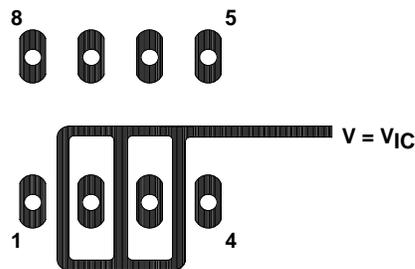

Figure 101. Isolation Metal Around Device inputs (JG and P packages)
1. Isolate the device from other potential leakage sources. Use a grounded shield around and between the device inputs (see Figure 101). Leakages that would otherwise flow to the inputs are shunted away.
Because of the extremely high input impedance and resulting low bias current requirements, the TLC271 is well suited for low-level signal processing; however, leakage currents on printed circuit boards and sockets can easily exceed bias current requirements and cause a degradation in device performance. It is good practice to include guard rings around inputs (similar to those of Figure 101 in the Parameter Measurement Information section). These guards should be driven from a low-impedance source at the same voltage level as the common-mode input (see Figure 107).